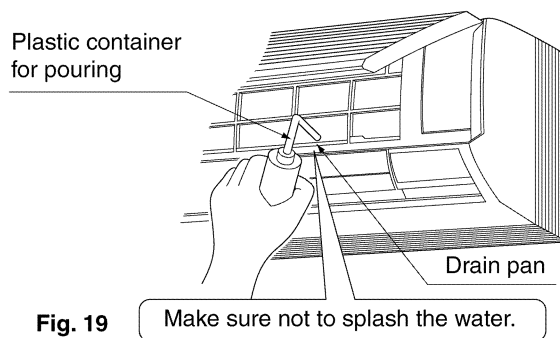

Fig. 19
- After drain work is complete, perform a drain check by opening the front panel, **removing the air filter**, pouring water into the drain pan, and making sure water flows smoothly out of the drain hose. (Refer to Fig. 19)